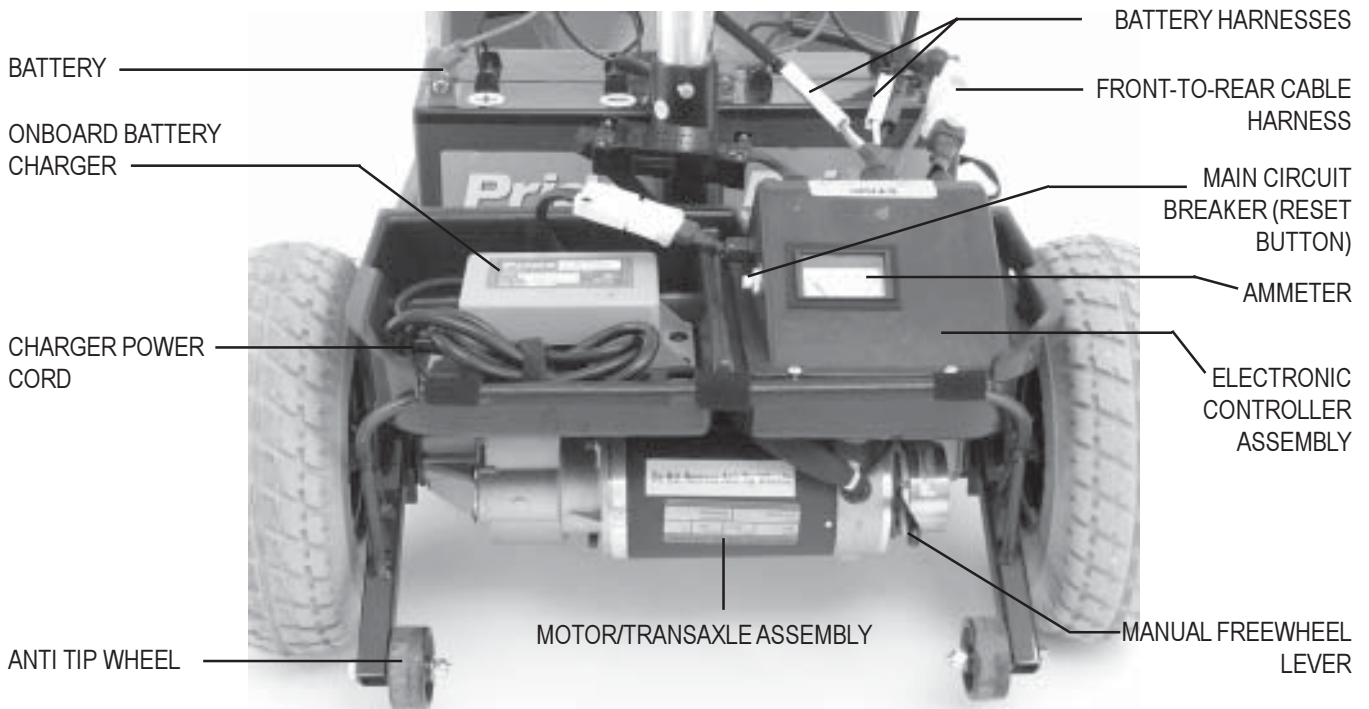

FIGURE 8. UTILITY TRAY COMPONENTS
The onboard battery charger, the charger power cord, the batteries, the electronic controller assembly, the main circuit breaker, the manual freewheel lever, and the motor/transaxle assembly are located beneath the shroud on the rear section of your Legend. See figure 8. Refer to IX. "Disassembly and Assembly" for instructions on removing the rear shroud.
- The charger is located on the utility tray. See figure 8.
- The main circuit breaker (reset button) is mounted on the left side of the electronic controller assembly cover. See figure 8.
- The manual freewheel lever is located on the end of the motor/transaxle assembly at the right rear of the Legend. See figure 8.
The motor/transaxle assembly is the electromechanical unit that converts the electrical energy of your Legend's batteries into the controlled mechanical energy that drives the Legend's wheels. See figure 8.
The anti-tip wheels are an integral and important safety feature of your Legend. Do not, under any circumstances, remove the anti-tip wheels from your Legend. See figure 8.